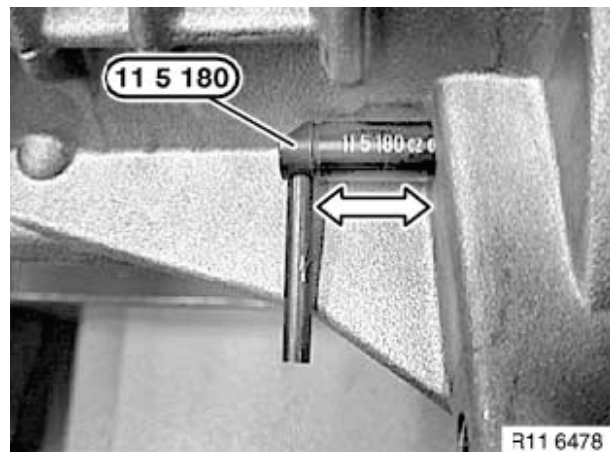

Figure 5-74
4. Secure crankshaft in TDC position with flywheel holding tool OEM No. 11 5 180 (**Figure 5-74**). **NOTICE: NEVER rotate the crankshaft backward. If the crankshaft is turned past TDC, rotate two more turns (720°) to bring No. 1 piston back to TDC.**